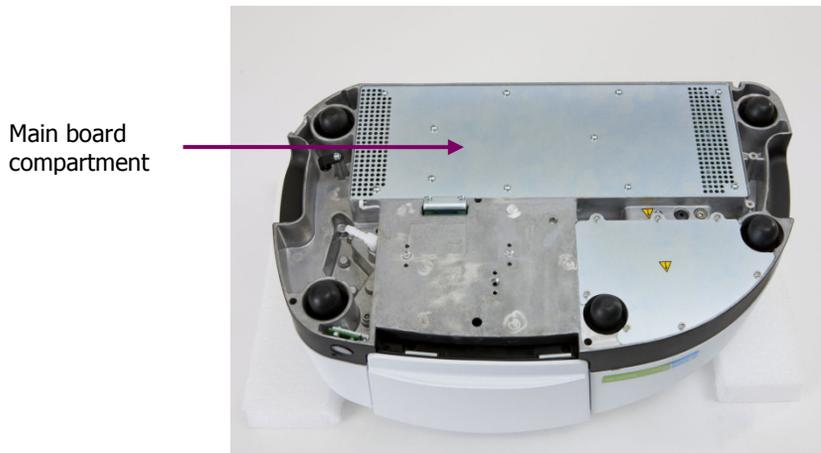

Figure 91 Location of the main board compartment
4. Carefully, turn the instrument over to display the underside, placing the instrument on a soft surface (Figure 91).